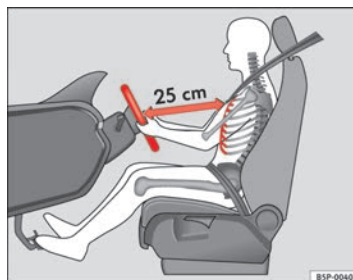

Fig. 115 Proper sitting position for driver
- Adjust the steering wheel until the correct position is set \Rightarrow fig. 115.
- Adjust the driver seat or steering wheel so that there is a distance of at least 25 cm between the steering wheel and your chest => page 160, fig. 115. If you fail to observe the minimum distance, the airbag will not protect you. Risk of fatal injury.